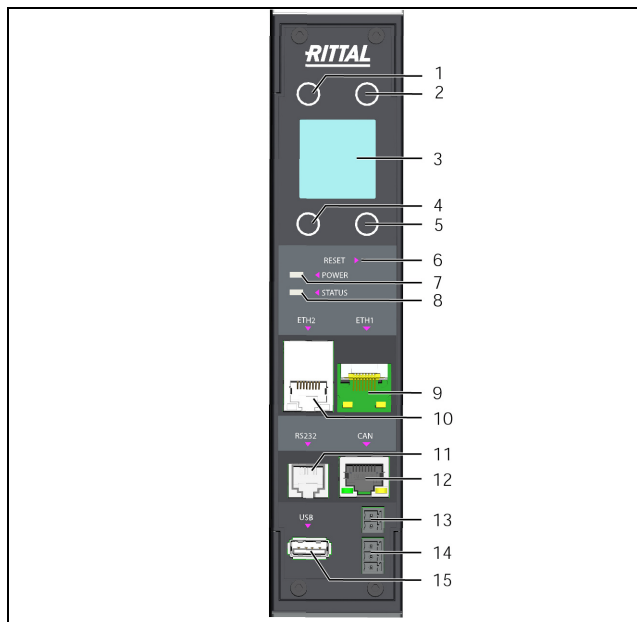

Fig. 21: Control and display elements and connections of the PDU metered/metered plus/switched/managed/RCM
The control and display elements are shown in fig. 21. The display direction and the assignment of the four keys at the side of the display will depend on the installation direction of the PDU. The keys are assigned depending on the position of the PDU/RCM. The assignment changes automatically when the PDU/RCM is rotated. The legend for fig. 21 shows the key assignment appropriate for the figure. The actual assignment of the keys is shown correctly on the display.
A multi-LED for status display is integrated into the front of the PDU (fig. 21, item 8). Further LEDs are also located on the CAN bus connection (fig. 21, item 12) and on the Ethernet interfaces (fig. 21, item 9 and item 10).
The individual menu points are selected using the "Down" (fig. 21, item 5) and "Up" arrows (fig. 21, item 2). You can switch between the individual menu levels with the "Esc" (fig. 21, item 1) and "Return" keys (fig. 21, item 4).